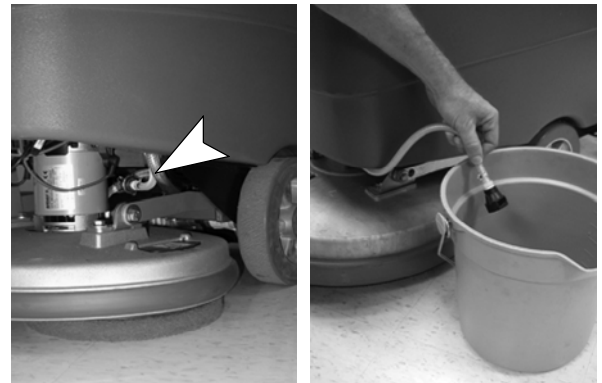

FIG. 57
3. Disconnect the black connector fitting at the scrub head and place the hose into a bucket (Figure 57).